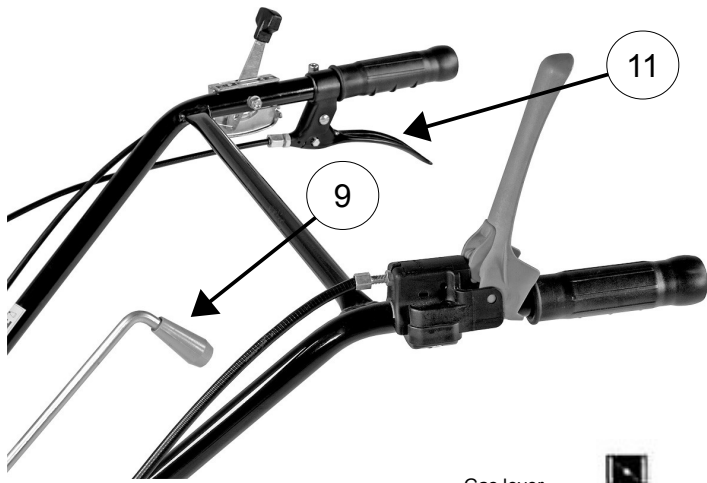

Fig.1A PX32
- 9- Reverse gear lever (PX32 – fig. 1A)
- 9- Leva retromarcia (PX32 – fig.1A)
- 9- Levier marche arrière (PX32 – fig.1A)
- 9- Rückwärtsgangshebel (PX32 – Abb. 1A)
- 9- Palanca de marcha atras (PX32 – fig. 1A)